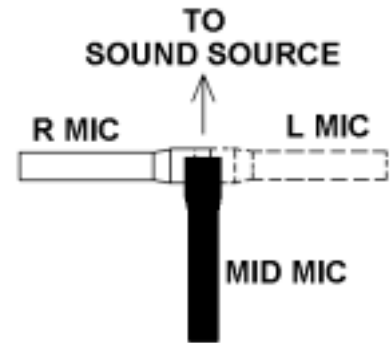

Figure 2. Top view of three-mic array.
2. Mount another CM-700 aiming forward toward the sound source. We'll call this the Mid microphone. Put the front-aiming CM-700 directly above the two side-aiming mics, so that all three diaphragms are aligned vertically (Figure 2). If the mics will be raised high on a mic stand (as for recording an orchestra), angle the Mid mic down slightly so that it will aim at the musical ensemble when raised.